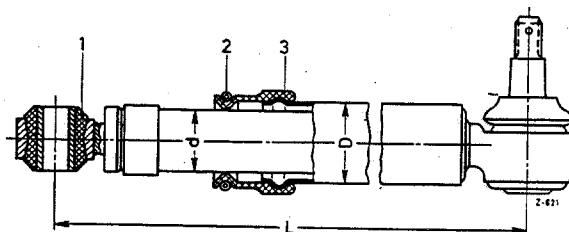

Fig. L 10/2
For vehicles which are in use in areas where extreme dust conditions prevail, a special export version steering shock-absorber is available. In this version, a rubber cuff (1) is fitted and provides special protection against the penetration of dirt and sand (Fig. L 10/2). This shock-absorber can be obtained complete as Part No. 000 460 05 66. In addition, the rubber cuff (1), Part No. 121 463 00 96, and the tension spring (2), Part No. 121 993 04 10 are obtainable as replacement parts.